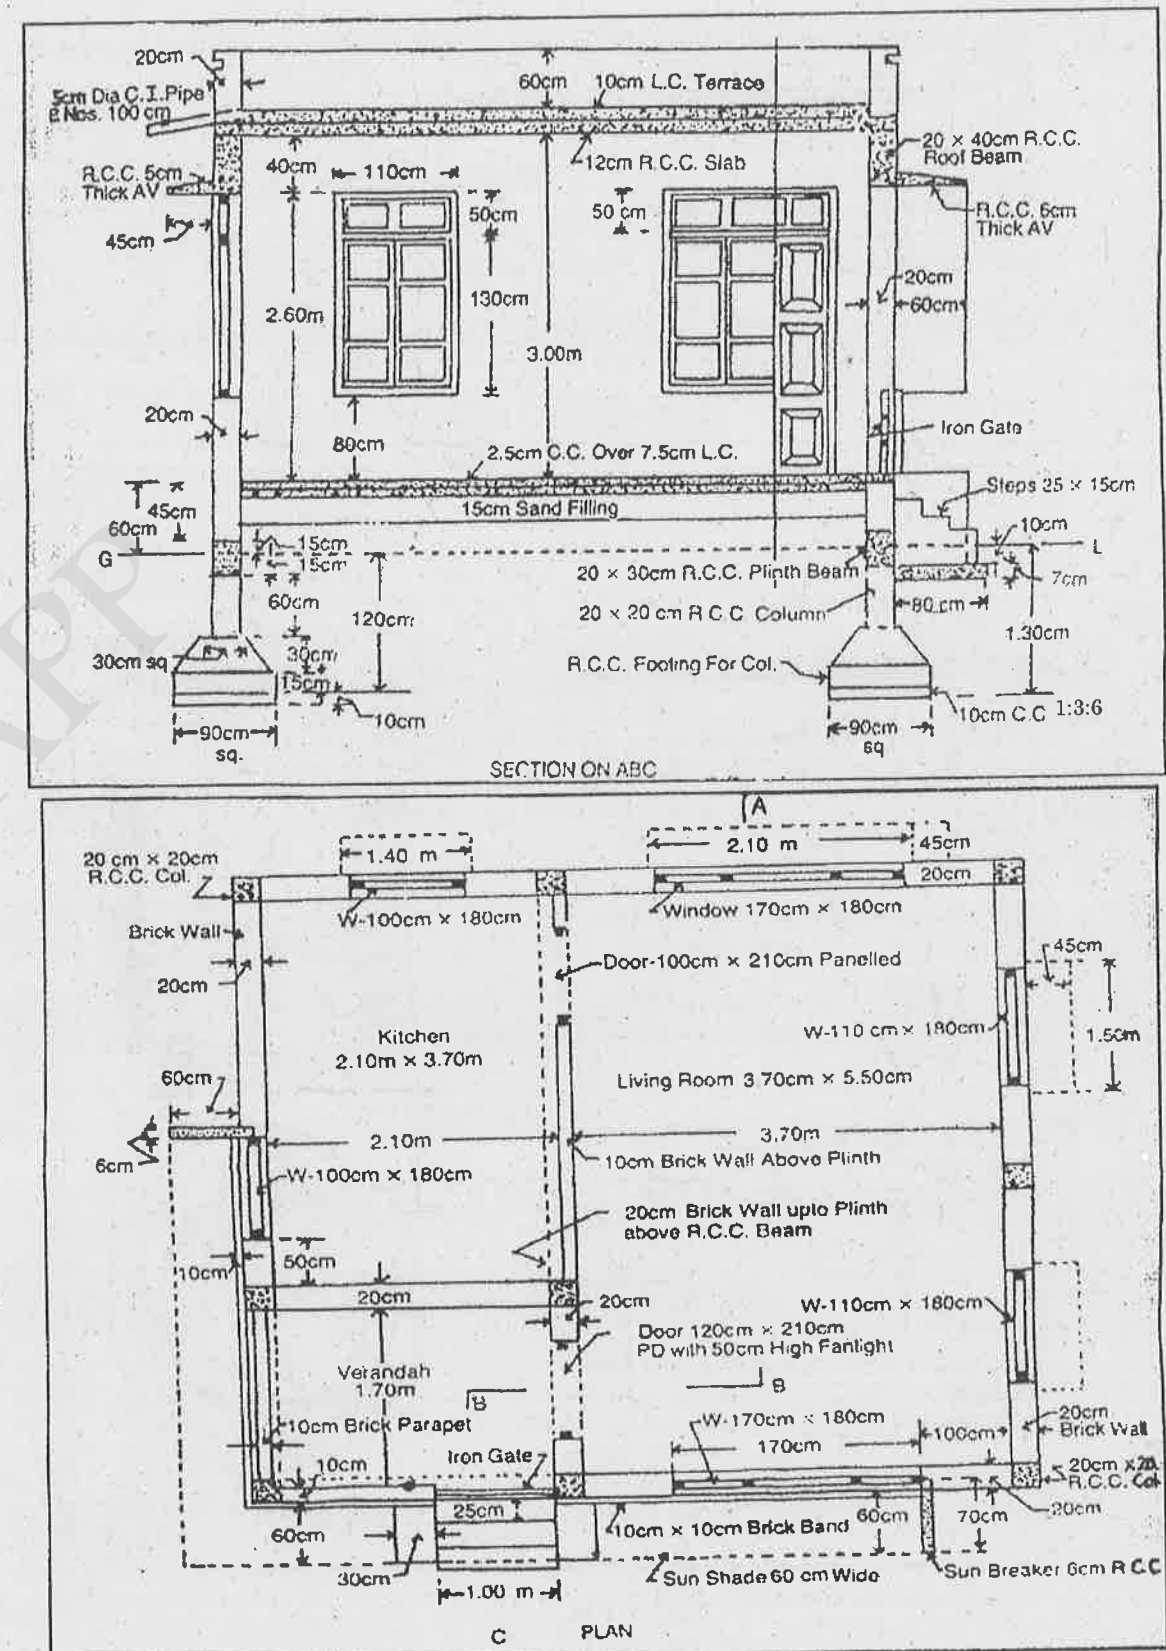

Fig. 11(b)
11. (a) Estimate the quantities of the following items of work of the building. The plan and sectional elevation of a building are given in Fig. 11(a).
- (i) 1st class brick work in 1:6 cm in superstructure including parapet. (5)
- (ii) 12 mm thick cement plastering 1:6 in walls. (5)
- (iii) White washing 3 coats inside. (3)
- (iv) Steel reinforcement bars in R.C.C at 1%. (3)
- (b) Prepare a detailed estimate of a small R.C.C. framed building from the given plan, and sectional elevation Fig 11(b). Find also the plinth area rate of building. The general specifications are as follows :
- Cement concrete 1:3:6 in foundation. (3)
- R.C.C. work 1:2:4 in columns, slab, beams. (3)
- 1st class brick work in 1:6 cement mortar. (5)
- Window shutters 4 cm thick glazed of teak wood excluding fittings. (5)